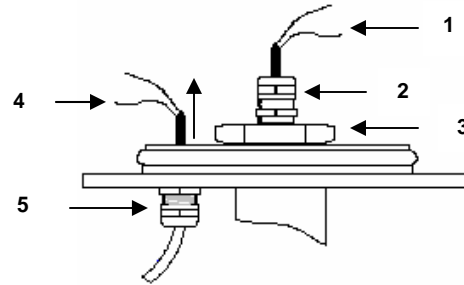

Figure 13
Step 8) Push the sensor cable (1) through the compression fitting (2) and install the fitting into the hex bushing (3). Push any optional output cable (4) through the second compression fitting (5) and install it into the bottom of the base plate. (Figure 13)